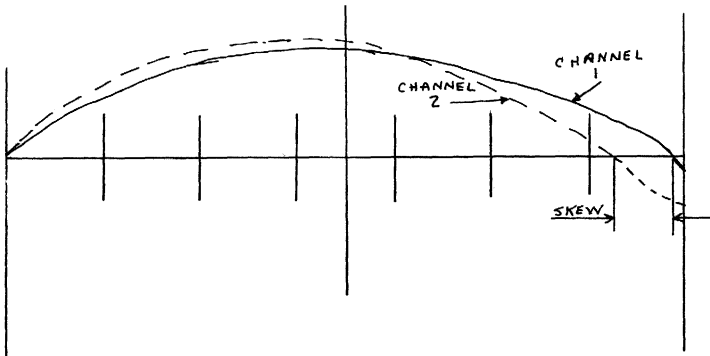

FIGURE 1
- (1) Plug in skew tester AFTER selecting source of V plus, see NOTES on S3 and TO USE: (5), S3.
- (2) Calibrate. See NOTES on S1 and TO USE: (5), S3.
- (3) Select correct split winding, see NOTES on S2 and TO USE: (5), S2.
- (4) Skew Test
- C. Skew is measured by measuring the time difference between the two signals crossing a given reference line. Figure 1. To test skew; with tape in motion, depress lightly on the back edge of the tape on the right or left sides of the head. Record which side causes the skew to increase when pressure is applied to one side or the other. If the real skew is greater than 2 μ sec, the head should be deskewed. This tolerance will apply to both TU55 and TU56 transports to gain an added factor of interchangeability of tapes. If the head is to be deskewed, it should be taken as close to zero as possible. If a non-zero skew is used, it must be formatted after each attempt to deskew.